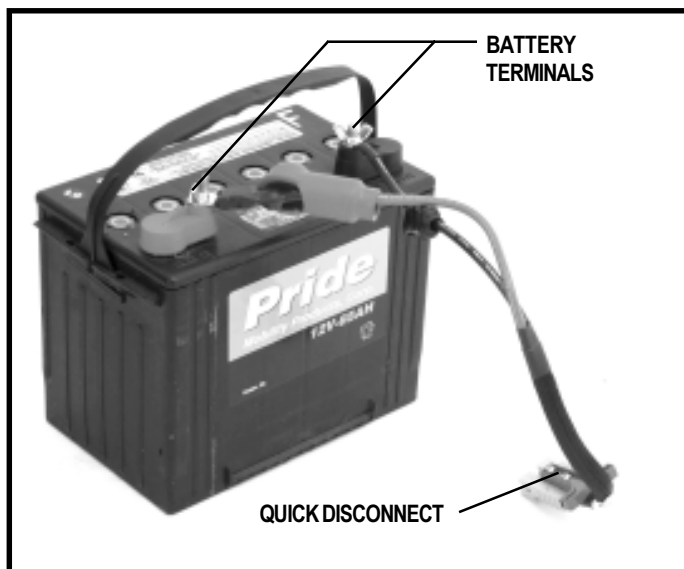

Figure 32. Battery and Harness
5. Locate the battery quick disconnects on the frame and disconnect both of them. See figure 32.
8. Reinstall the wiring harnesses on each battery. Make sure that you connect the red wire to the positive (+) battery terminal and the black wire to the negative (-) battery terminal. See figure 32.